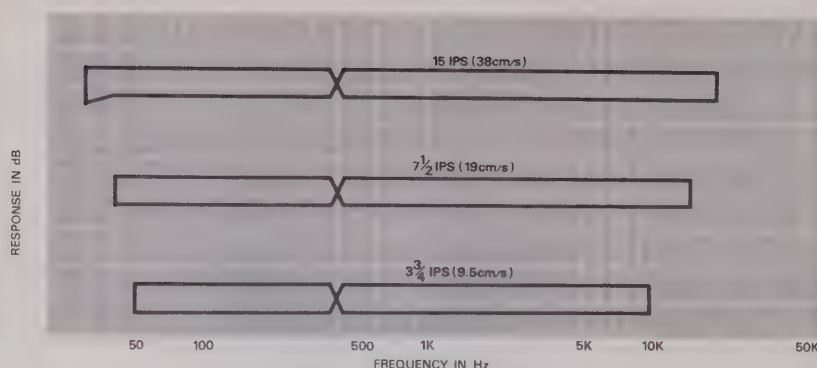

Fig. 7-4 Frequency Response Limits -Playback-
14. Compare the readings obtained on the level meter with the response limits given in Fig. 7-4.